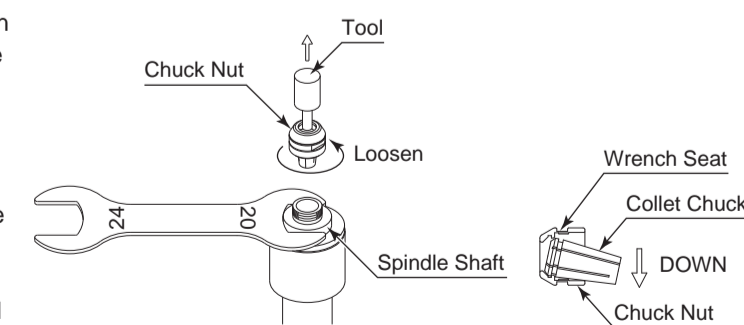

Fig. 4
- Remove the tool according to the section " 8. CHANGING THE TOOL " procedure above and remove chuck nut assembly. (Fig. 4)